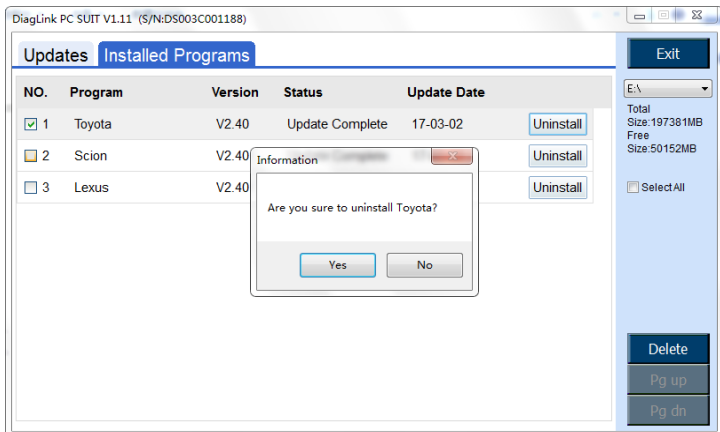

Figure 10.10
- Click on the **Installed Programs** tag entry and the page will show the list of programs installed (Figure 10.10).